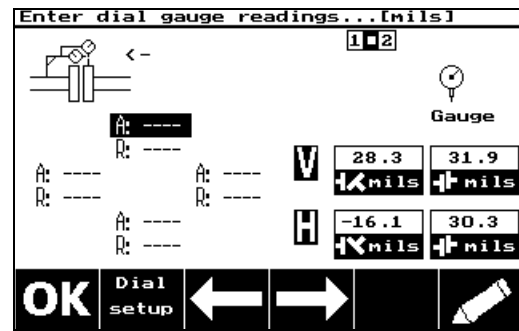
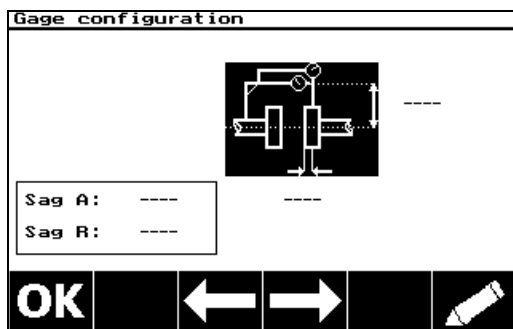

Figure 3
Figure 4
4) Press the **Dial setup** softkey. (See Fig. 3). Now press the **←** softkey until the entire dial indicator setup icon is highlighted (see Figure 4).
5) Press the **pencil** softkey. (See Figure 4).